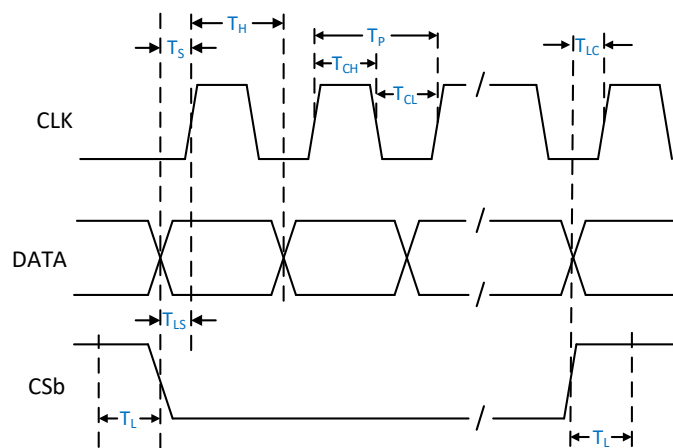

Figure 63. SPI Timing Diagram
**Table 8. SPI Timing Diagram Values for Figure 63**
When CSb is set to logic high, the CLK input is disabled. When CSb is set to logic low, the CLK input is enabled and the DATA word can be programmed into the shift registers. The programmed word is then latched into the F1456 on the CSb rising edge (refer Figure 63). The operation of the SPI bus is independent of the /STBY pin setting (see Standby Mode section below).